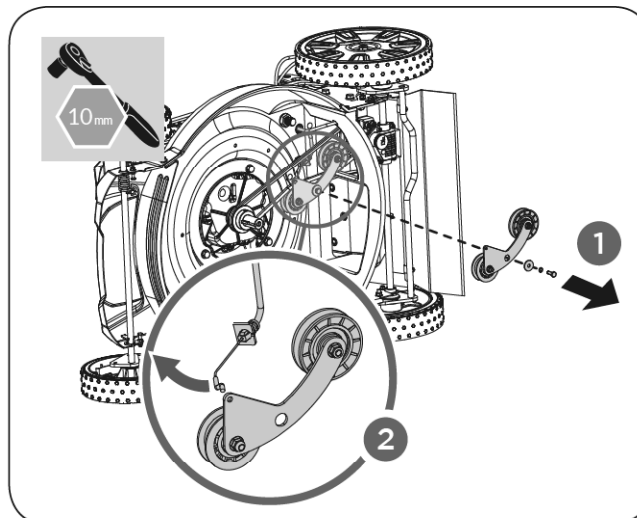

Figure 25
3. Remove the tension roller plate. (See **Figure 25, Illustration 1**)
4. Disconnect the cable from the tension roller plate. (See **Figure 25, Illustration 2**)